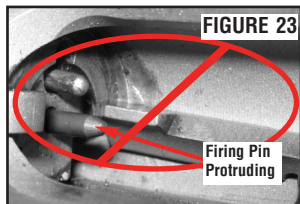

FIGURE 23
- Before you load the pistol, check for proper assembly. Look at the breech face (Figures 23 & 24) and in the chamber and barrel, slide the slide back and forth, put an empty magazine in, be sure the slide locks open. Be sure the pistol is unloaded and pointing in a safe direction when you test its functions.